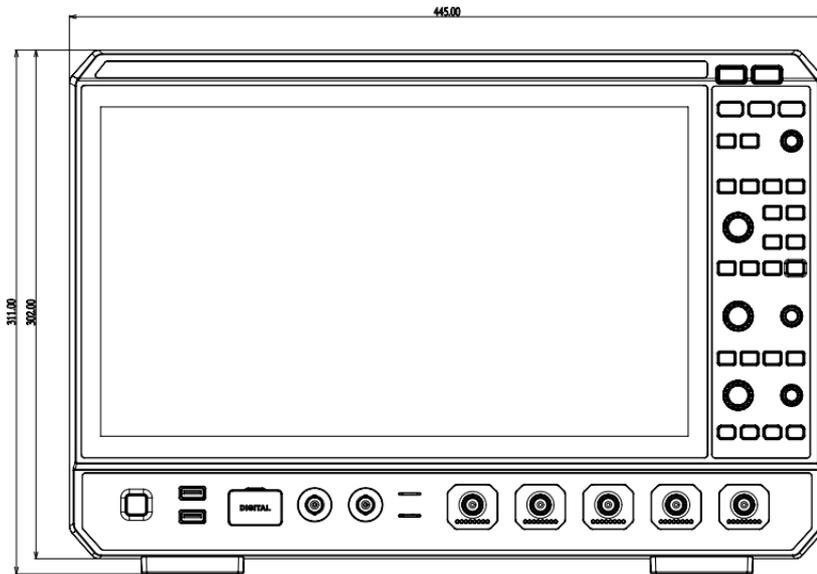

Figure 2 Compensating Calibration of Probe
- View the displayed waveform, as shown in **Figure 2**.